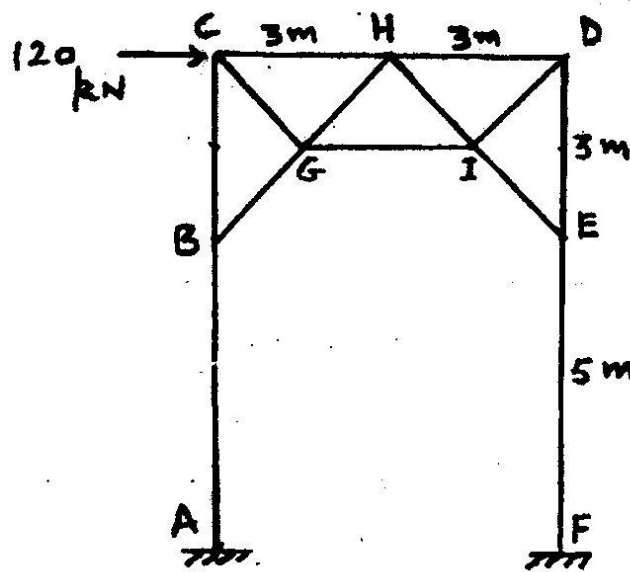

Fig 2
- (b) Analyse the A-type portal bracing shown in fig 2. 12